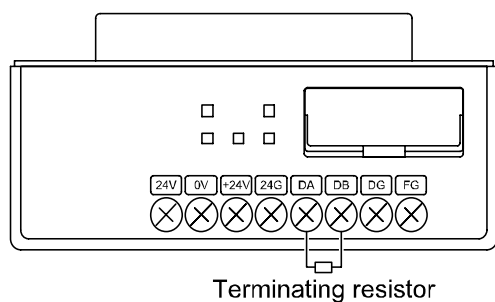

Fig. 3
- (3) The appropriate terminating resistor varies depending on the CC-Link cable used. (Refer to the table and Fig. 3 below)